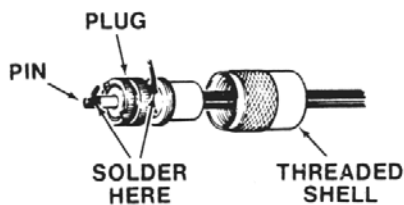

FIGURE 2
1. Place the threaded shell of the connector on the cable as shown in Figure 2.
5. Carefully insert both the center wire and the braided wire into the connector. Guide the wires so that the braided wire exits at a hole in the side of the connector and the center wire exits from the pin (refer to Figure 2).
6. Solder at the points shown in Figure 2 and trim off the excess wire.